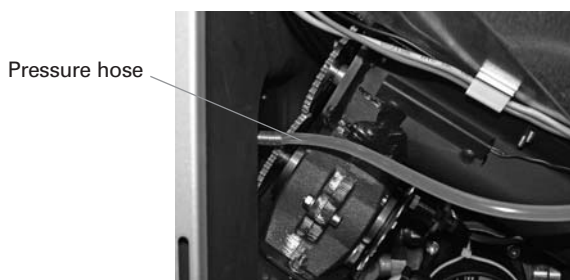

Fig. 149 Pulling off the pressure hose
- Pull the pressure hose off the pressure measuring nipple (Fig. 149) and clean the induction opening in the pressure measuring nipple, e.g. using a small screwdriver, drill bit or the like – Fig. 150.